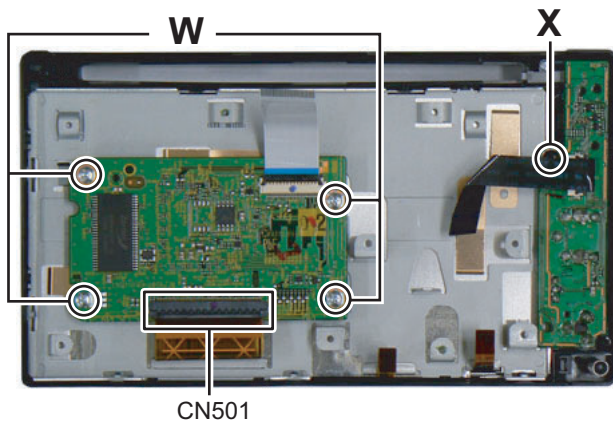

Fig.19
3.1.12 Removing the Panel-A board (See Fig.19)
- (1) Disconnect the FPC connected to connector CN501 of the Panel-A board.
- (2) Remove the four screws **W** attaching the Panel-A board.
3.1.13 Removing the SW board (See Fig.19)